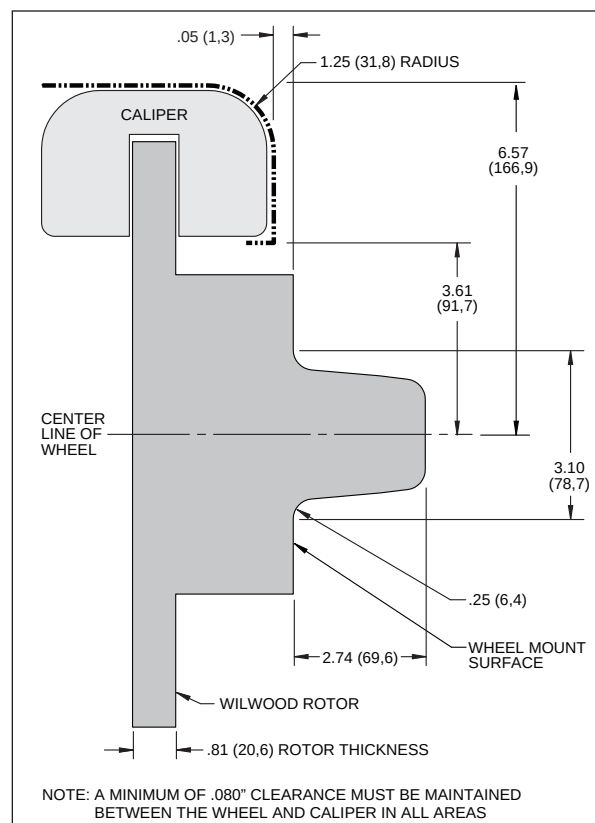

Figure 2. Wheel Clearance Diagram
- Review the Wheel Clearance Diagram (Figure 2, page 3) to verify that there is adequate clearance with the wheels you will be using with the installation.
- Verify wheel clearance utilizing Figure 2.
- Verify the new hub stud pattern in this kit matches the lug pattern of the vehicles wheels. CDP hubs have a 5 x 4.50" and 5 x 4.00" pattern. The 5 x 4.00" pattern does not guarantee fitment with all 5 x 4.00" wheels, either OEM or aftermarket. It is important that the center hole clearance be 3.10" or larger to clear hub snout in the kit, Figure 2.
•**WARNING:** The wheel contact surfaces must seat completely on the face of the hub. If any contact surfaces overhang the outside diameter of the hub face, a 6.60" diameter x .20" thick steel spacer (item 22, Wilwood P/N 300-11961) MUST be used between the wheel and the hub.